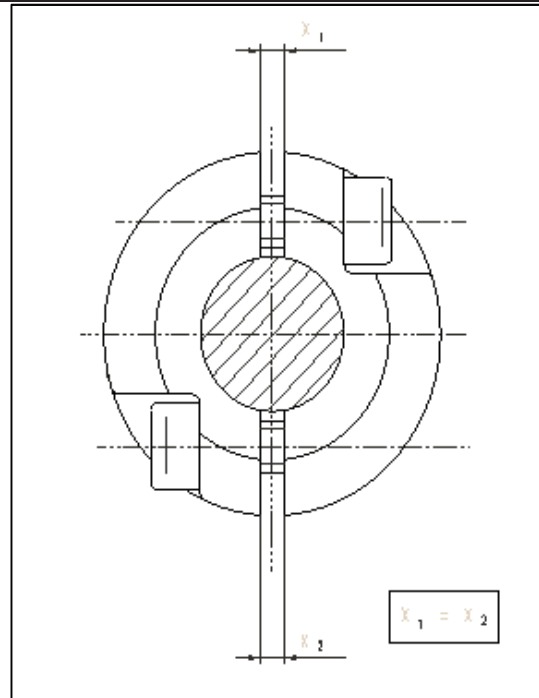

Figure 5: Overhead view of coupling
Remove the cap nuts (9) of the coupling shells (5), place the motor on the pump head (3 or 3c), and secure with screws (see Table 14, pg 35/Table 15, pg 37). Manually tighten the socket head cap screws on the coupling shells slightly, ensuring that the gap between the coupling shells is even (→ Figure 5, pg 17). Please also refer to 6.1.3 Checking direction of rotation, pg 23 for information on checking the direction of rotation.